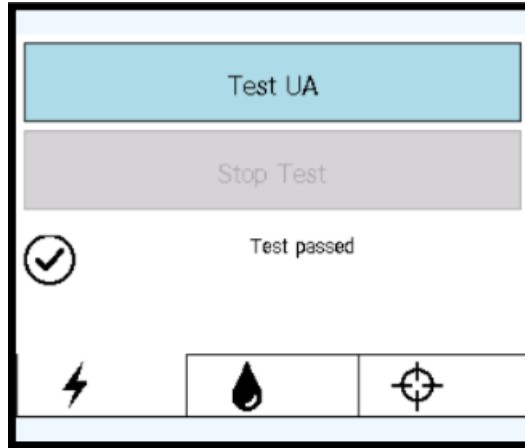
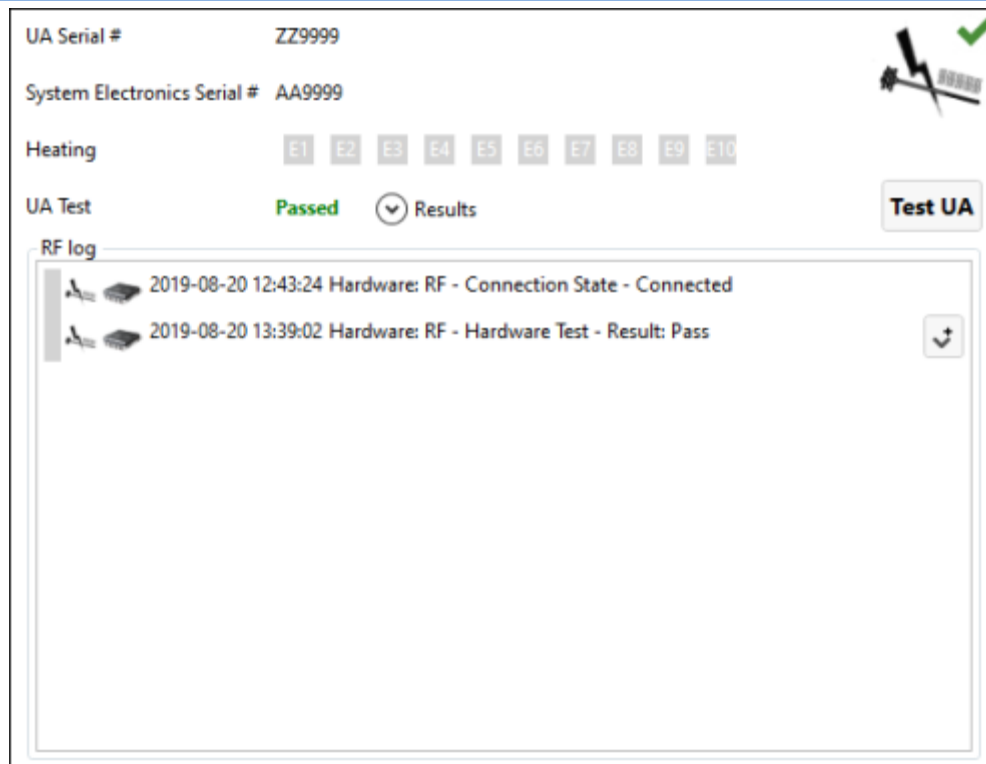

Figure 14: RF tab on PSIB display after successful RF connectivity test
Figure 15: RF information box in Setup workspace after successful RF connectivity test
- c. In the **RF** tab of the PSIB display (*Figure 14*), click **Test UA**.
The system will send a short burst of power to each of the ten UA elements to ensure continuity and functionality of all ten channels. This can also be done from the TDC Setup workspace from the RF information box in the top-right quadrant (*Figure 15*).
When the RF connectivity test is complete, the PSIB will display a short message (*Figure 14*). You can see detailed RF connectivity test results in the RF information box of the TDC software (*Figure 15*).